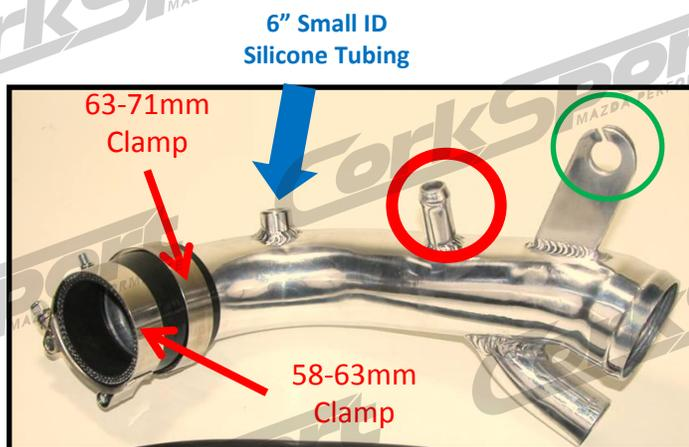

Figure 3a
- a) Assemble the turbo inlet pipe** (shown in **Figure 3a**). First place the silicone reducer on the end of the TIP. Then, add the 57-65mm T-bolt clamp to the turbo side and the 63-71mm T-bolt clamp to the turbo inlet pipe side.
- c) Add the 6" of silicone tubing to the CorkSport TIP** (Shown with **blue arrow** in **Figure 3a**).
- a) Assemble the turbo inlet pipe (shown in Figure 3a). First place the silicone reducer on the end of the TIP. Then, add the 57-65mm T-bolt clamp to the turbo side and the 63-71mm T-bolt clamp to the turbo inlet pipe side. The T-bolt band clamp that holds the silicone tubing to the turbocharger compressor housing should just be tightened down slightly, but still loose on the silicone coupling.
- b) Remove the factory mounting grommet and washer from the factory TIP and install it on the CorkSport TIP location (blue on factory TIP shown Figure 2e and circled in green in Figure 3a).
- c) Add the 6" of silicone tubing to the CorkSport TIP (Shown with blue arrow in Figure 3a).